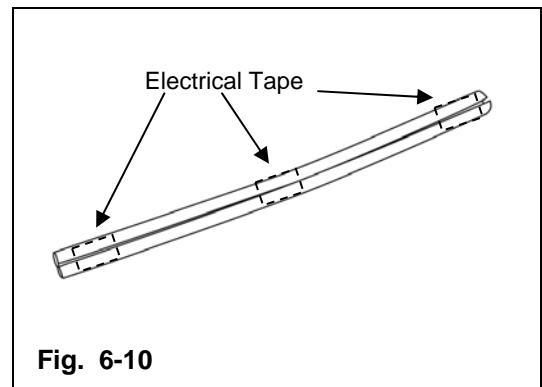

Fig. 6-10
10. Attach electrical tape (or equivalent) in three (3) places to the 11-inch foam wrap to prevent from falling off. (Fig. 6-10)